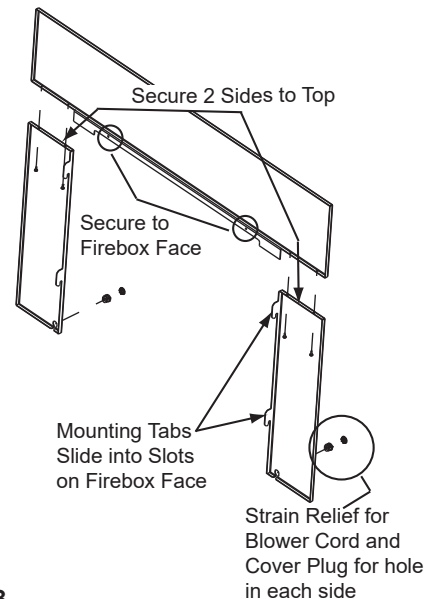

Figure 20.3
2. Using a 4 to 6 inches long Phillips head screw driver attach the side surrounds to the top surround using (2) #8 sheet metal screws on each side provided with the kit (**Figure 20.3**).
5. Slide the assembled trim set over the surround set. and then over the appliance matching the mounting tabs on the side pieces with the slots on the appliance (**Figure 20.3**).
6. Align the 2 screws in the top surround piece to the 2 alignment holes on the appliance top. Secure in place (**Figure 20.3**).